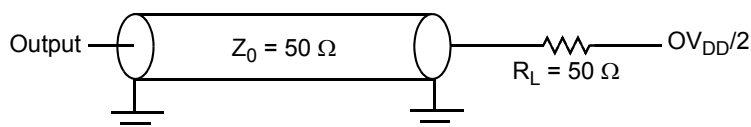

Figure 32. AC Test Load for the JTAG Interface
1. All outputs are measured from the midpoint voltage of the falling/rising edge of t_{TCLK} to the midpoint of the signal in question. The output timings are measured at the pins. All output timings assume a purely resistive 50-Ω load (see Figure 32). Time-of-flight delays must be added for trace lengths, vias, and connectors in the system.
2. The symbols used for timing specifications follow the pattern of $t_{(first\ two\ letters\ of\ functional\ block)(signal)(state)(reference)(state)}$ for inputs and $t_{(first\ two\ letters\ of\ functional\ block)(reference)(state)(signal)(state)}$ for outputs. For example, t_{JTDVXH} symbolizes JTAG device timing (JT) with respect to the time data input signals (D) reaching the valid state (V) relative to the t_{JTG} clock reference (K) going to the high (H) state or setup time. Also, t_{JTDVXH} symbolizes JTAG timing (JT) with respect to the time data input signals (D) went invalid (X) relative to the t_{JTG} clock reference (K) going to the high (H) state. Note that, in general, the clock reference symbol representation is based on three letters representing the clock of a particular functional. For rise and fall times, the latter convention is used with the appropriate letter: R (rise) or F (fall).